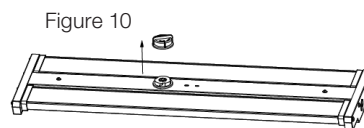

Figure 10
**STEP 1:** Remove the sensor cap from the base (Figure 10).